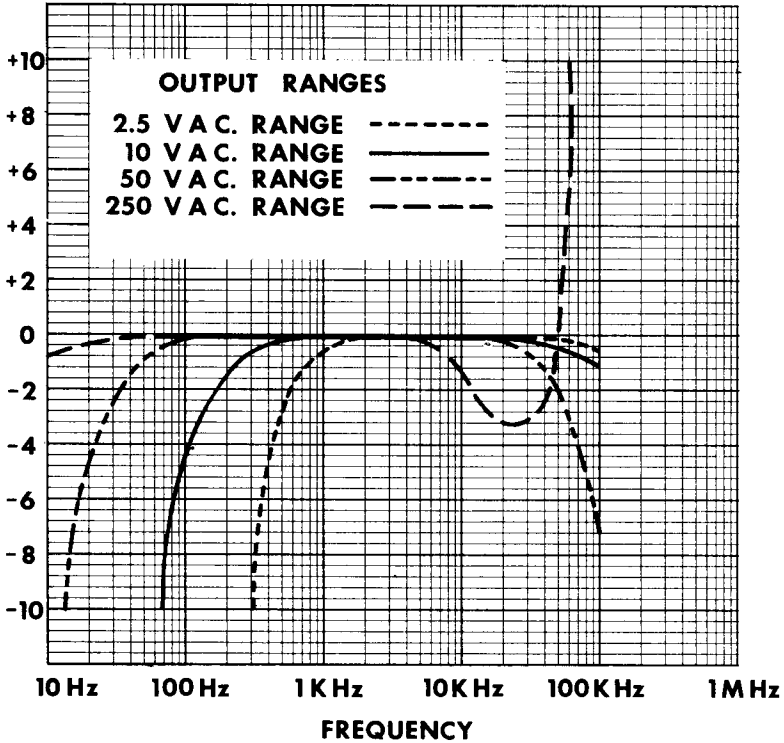

FIGURE 4-4. FREQUENCY RESPONSE OUTPUT RANGES
4.12.1 It is often desired to measure the AC component of an Output Voltage where both AC and DC voltage levels exist. This occurs primarily in amplifier circuits. The 260 has a 0.1 mfd, 400 volt capacitor in series with the OUTPUT jack. The capacitor blocks the DC component of the current in the test circuit, but allows the AC or desired component to pass on to the indicating instrument circuit. The blocking capacitor may alter the AC response at low frequencies but is usually ignored at audio frequencies (Figure 4-4).